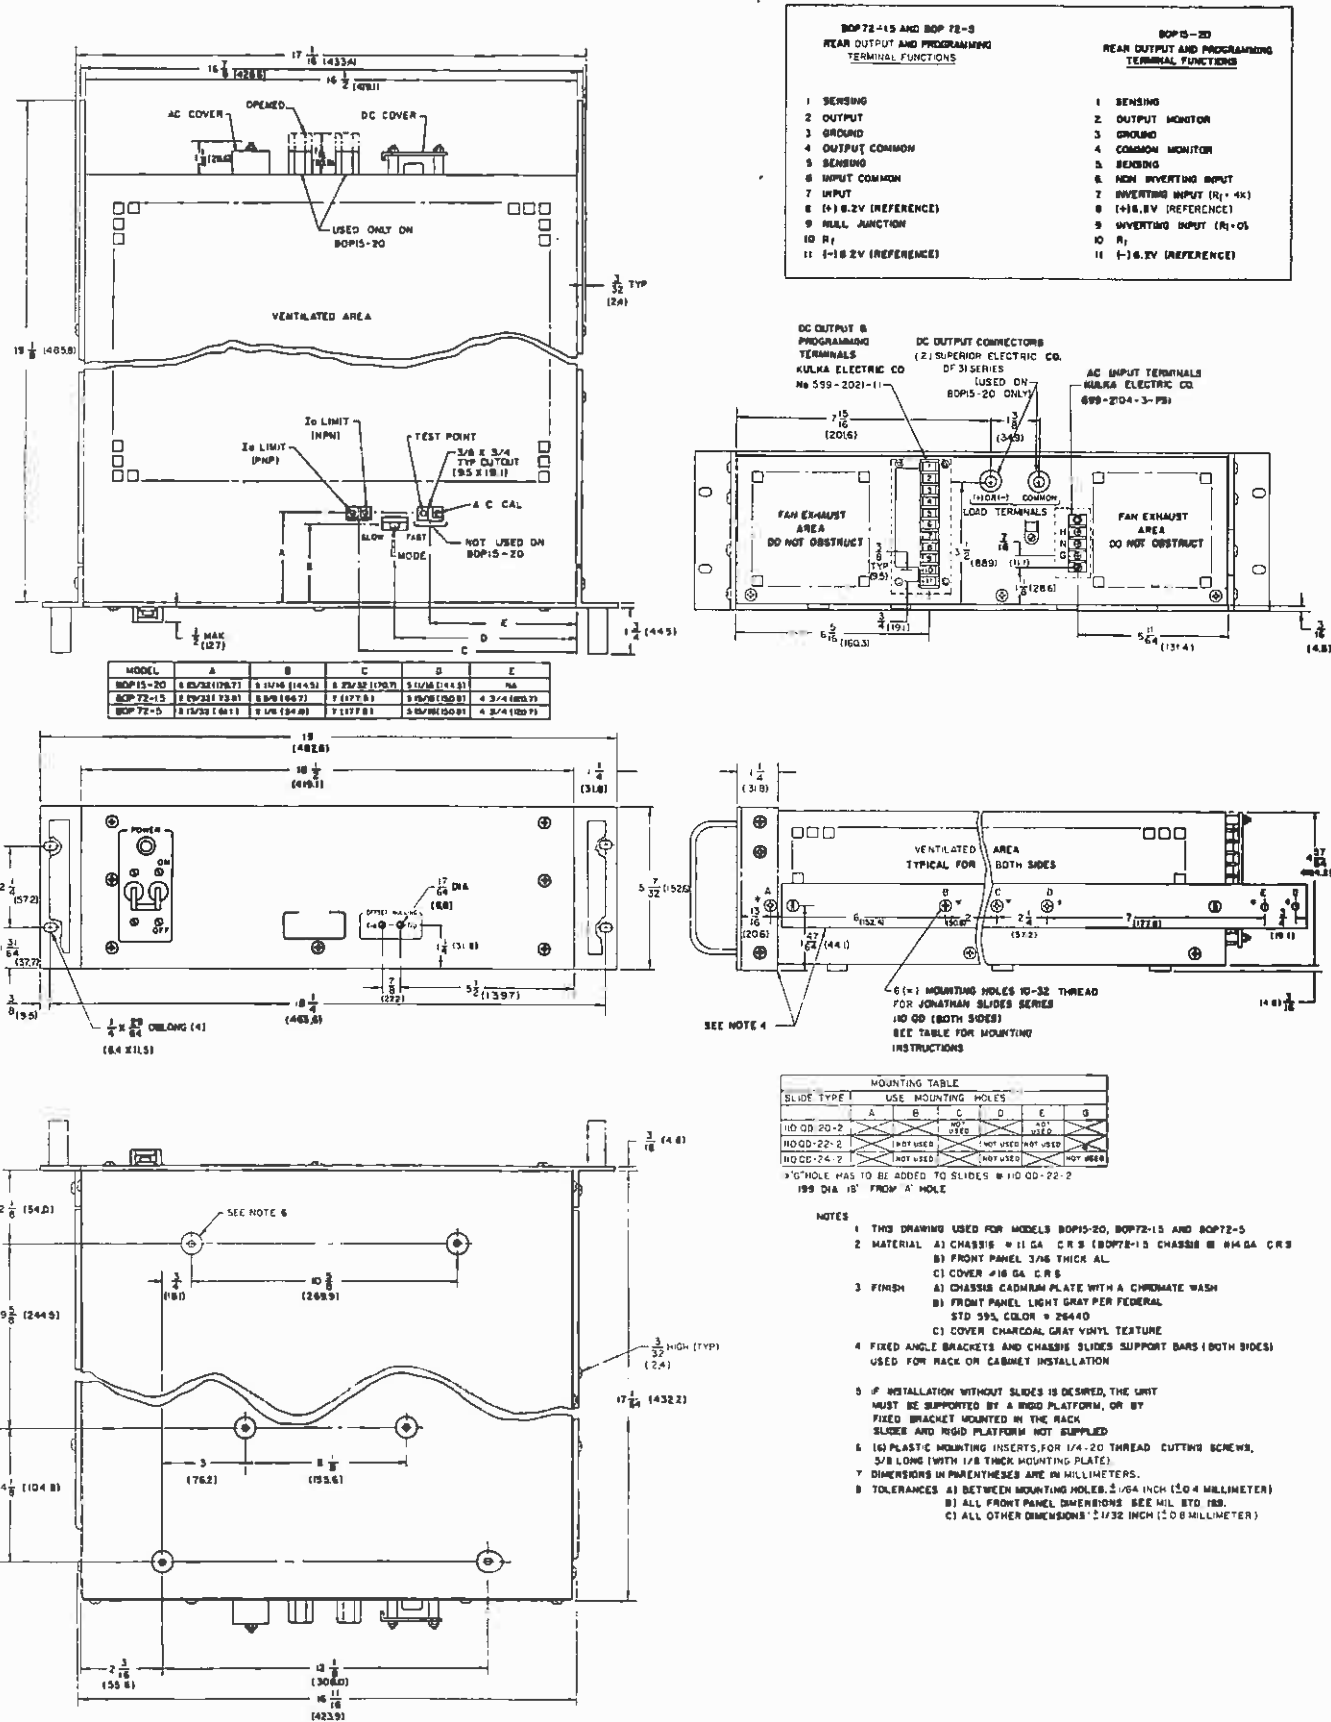

FIG. 1-3 MECHANICAL OUTLINE DRAWING
- b) SIZE AND FINISH: Refer to "Mechanical Outline Drawing" (FIG. 1-3).
- 2-14 UNMETERED MODELS (NO SUFFIX). The unmetered instruments are constructed in modular form for direct chassis mounting into systems installations. For mounting-hole dimensions and layout, see "Mechanical Outline Drawing" (FIG. 1-3). Please refer to paragraph 2-15 if the instrument must be installed into confined spaces.
- 4) If Jonathan Slide 110 QD-24-1 is used, an additional hole must be drilled into the slide. See FIG. 1-3 for further information.